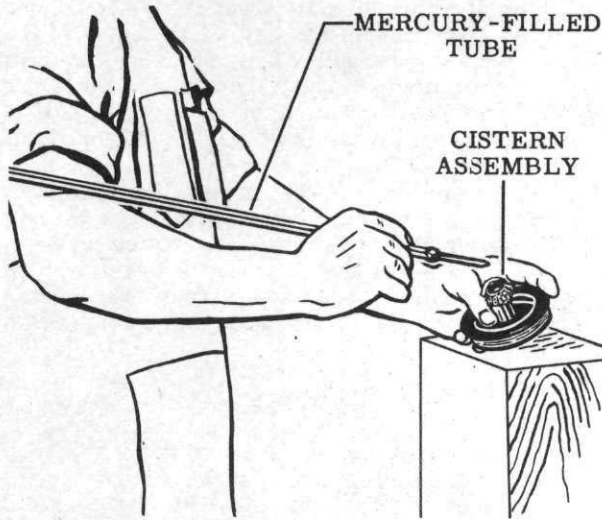

Figure 49
59. Remove the mercury-filled tube from the vertical support rack, Tool No. 5. Hold the tube with the right hand just below the trap, and let the end of the tube rest on your elbow. See Fig. 49. Tilt the cistern assembly with your left hand, while at the same time compressing the cisterns slightly
to bring the mercury right up to the top. See Fig. 49.